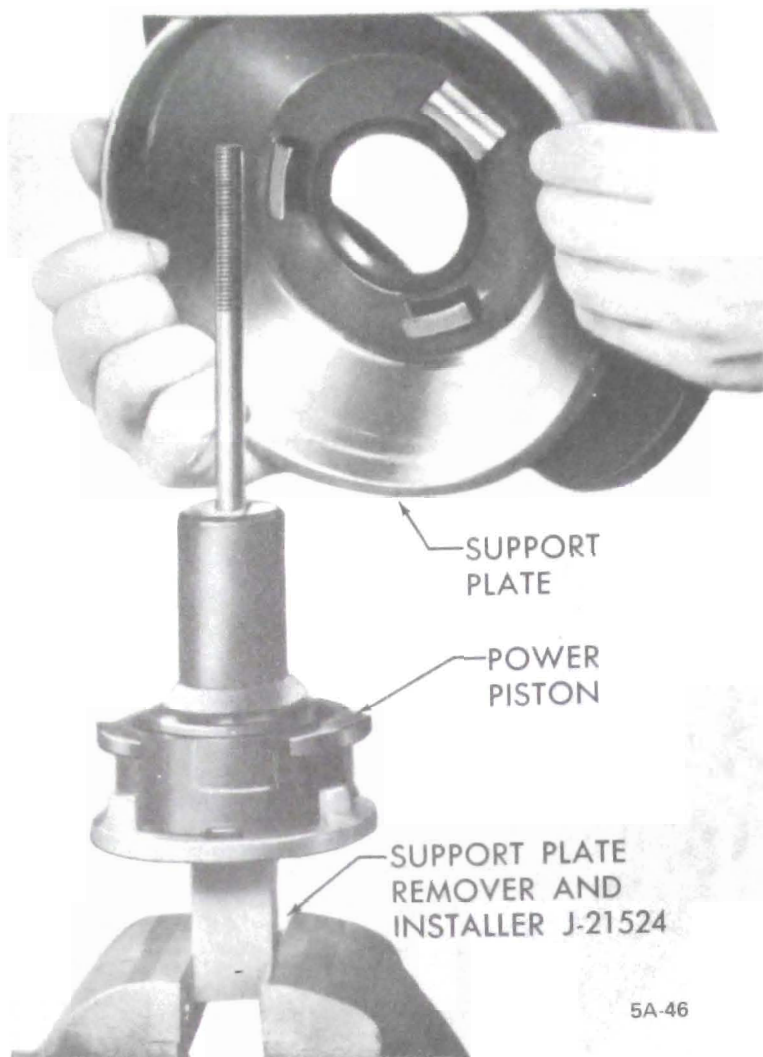

Figure 5A-46 Installing Power Piston into Support Plate
assembly over tube of power piston. The flange of diaphragm will fit into groove on power piston. See Figure 5A-46.
16. Press down and rotate support plate clockwise, until lugs on power piston come against stops on support plate. See Figure 5A-36.